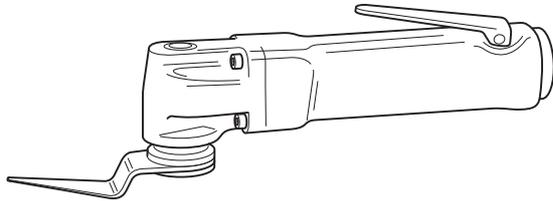

Fig 1. Pneumatic Knife
- a Pneumatic Knife. → Fig 1. \(□ B-2\). This provides one of the easiest methods of removing the sealant around laminated glass. The tool, powered by compressed air, should be sourced locally.